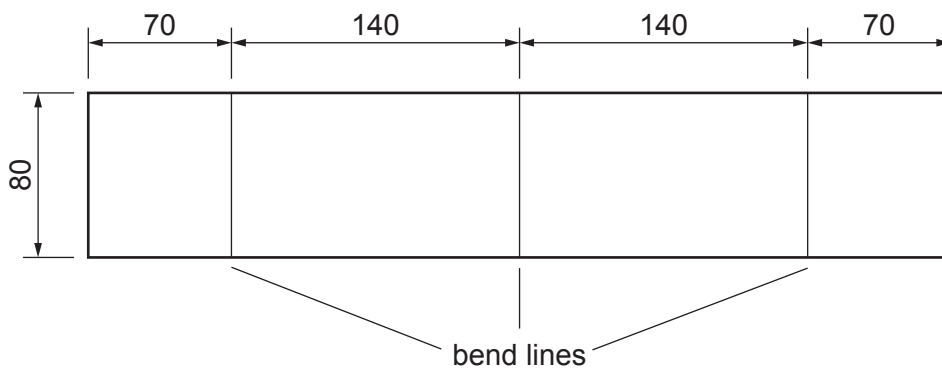

Fig. 13.2
- (b) Fig. 13.2 shows the development (net) of the outer case marked out, ready to be bent to shape.